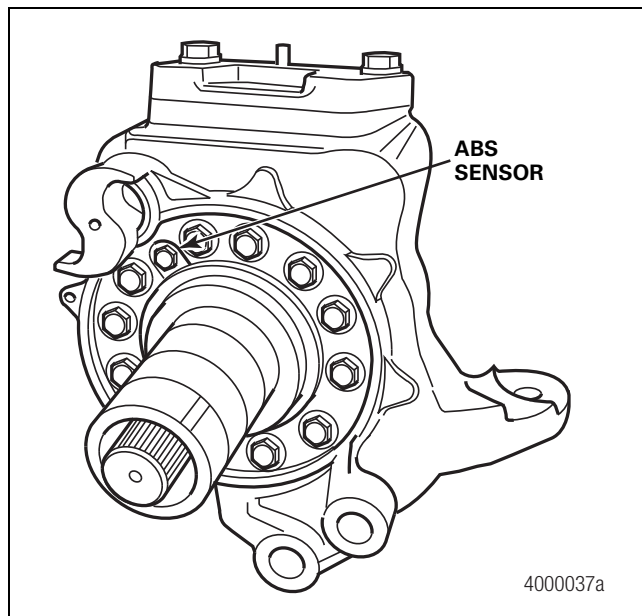

Figure 3.16
- **If the vehicle is equipped with ABS:** Push the ABS sensor into the steering knuckle cavity. Figure 3.16.